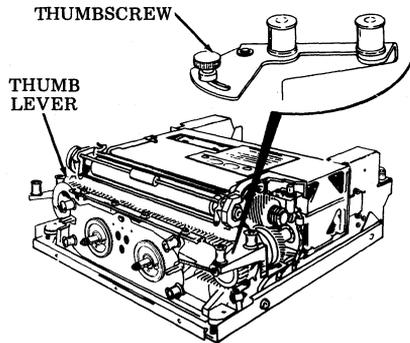

Fig. 11
- (a) Release thumb lever on left ribbon guide bracket (Fig. 11) allowing bracket to swing to the left.
- (b) Loosen thumbscrew on right ribbon guide bracket (Fig. 11); swing bracket to the right.